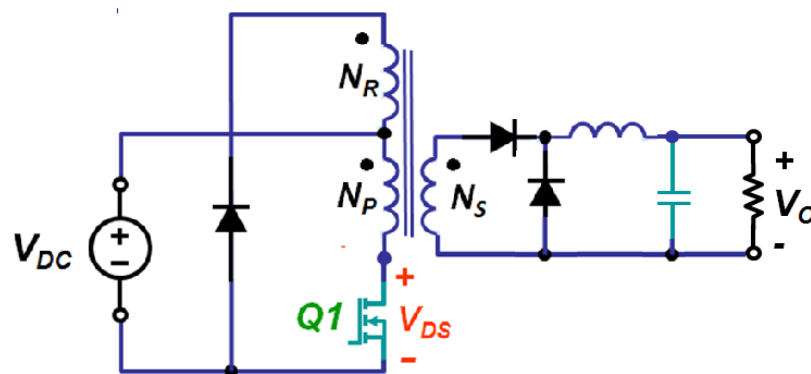

Figure Q7
- 7 In Figure Q7, what is the theoretical maximum voltage encountered by Mosfet Q1 in the converter, given that $V_{DC} = 50$ V and the turn ratio of $N_P:N_S:N_R = 3:2:1$?